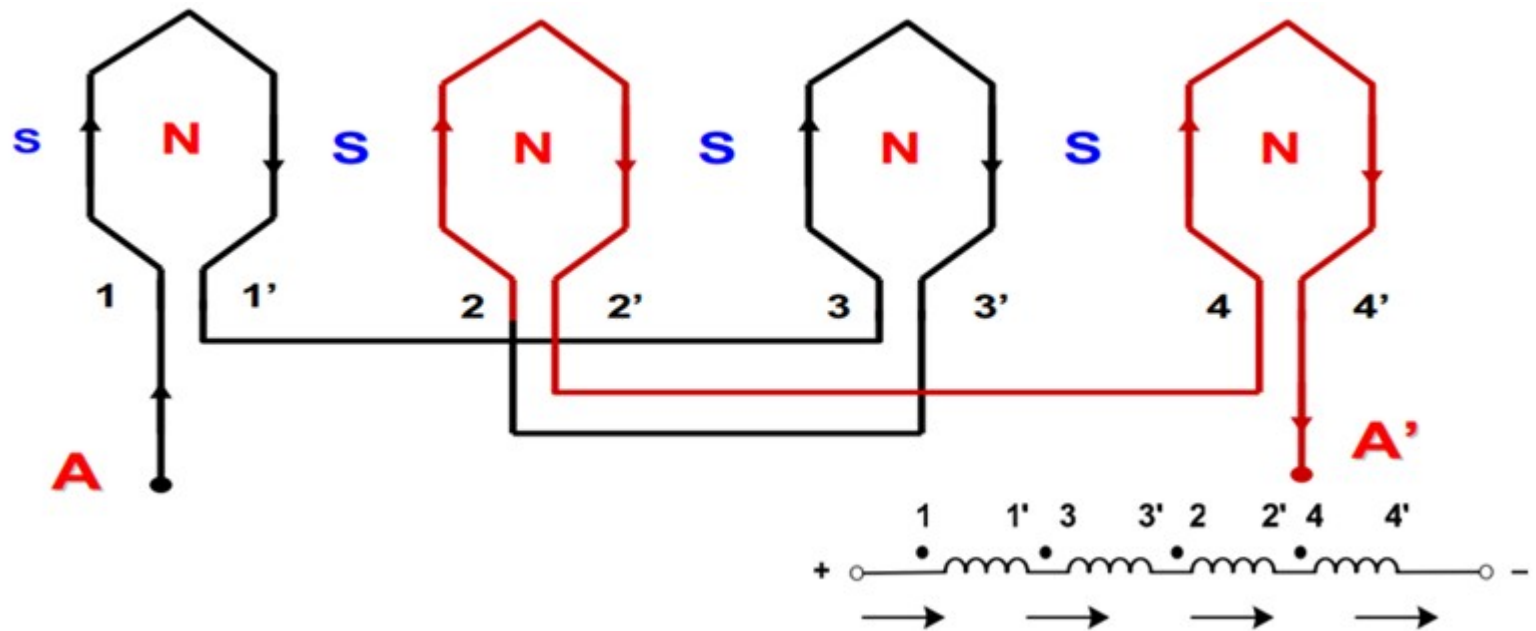

Figure 3-25 Eight pole (Series)
- Figure 3-25 Shows schematically only four coils of one phase of the windings connected in series, along with the direction of current in them, producing eight poles in the stator